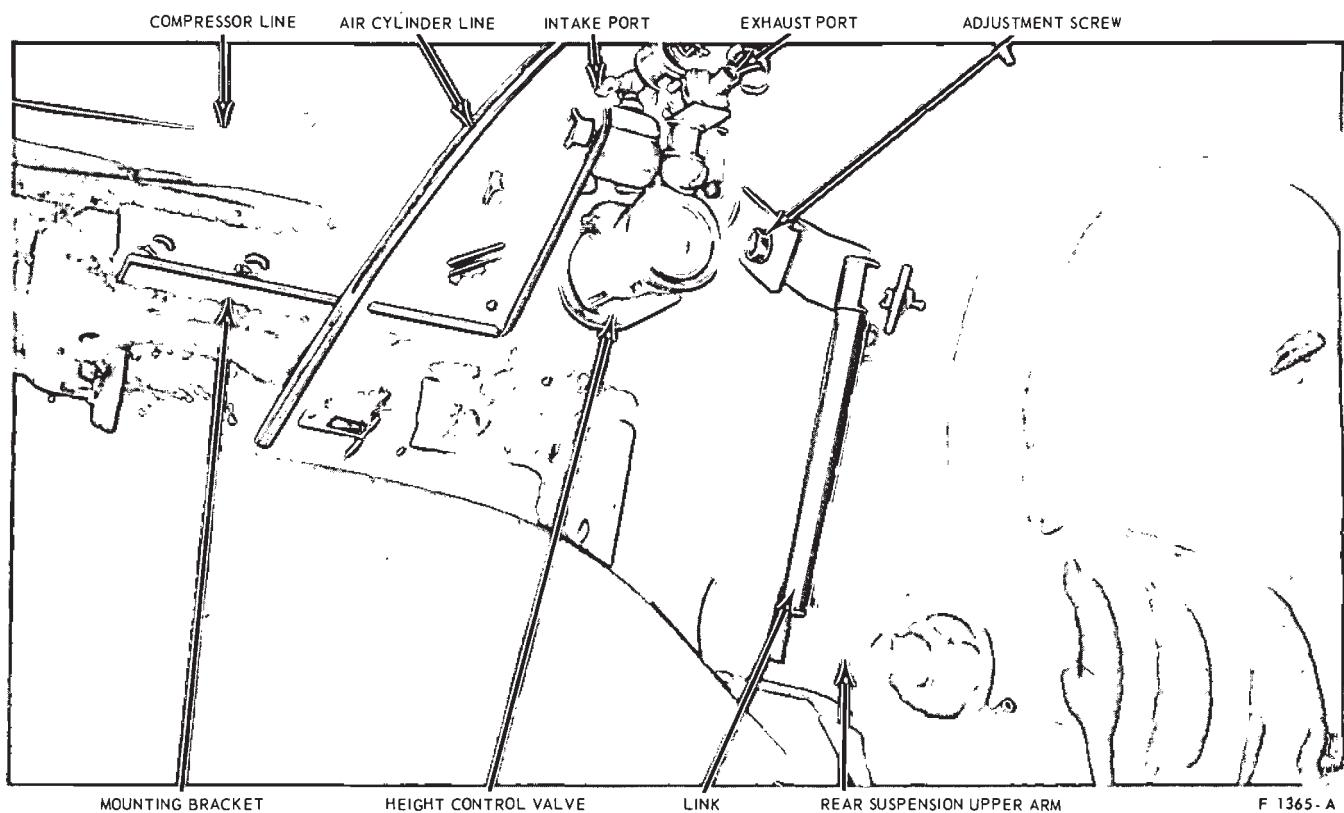

FIG. 3—Height Control Valve Installation
2. Disconnect the compressor line from the intake port of the height control valve (Fig. 3).